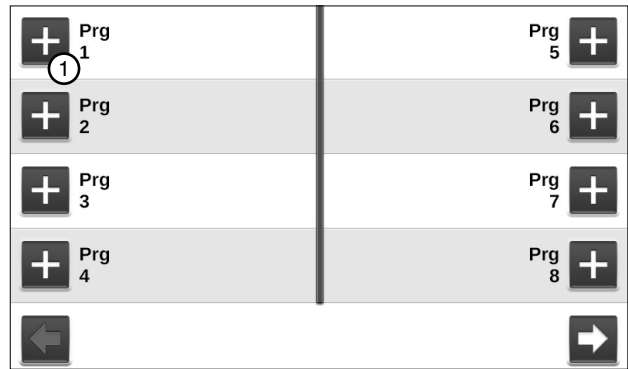

Figure 121-1 Step Programs Screen
2. Push the **New Program** button corresponding to the preferred program number as shown in Figure 121-1.